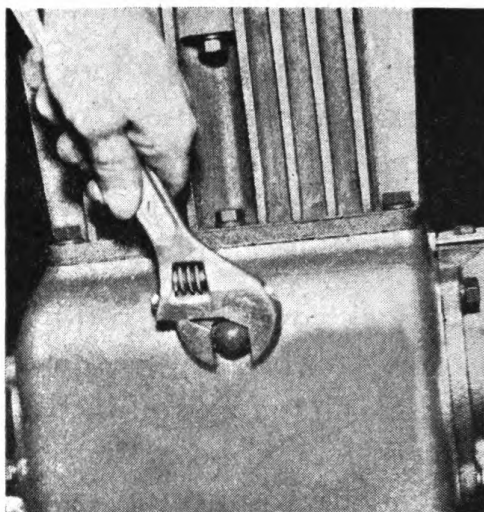

FIGURE 39
1. Remove oil circulating ring retainer #1842. See Figure 39.